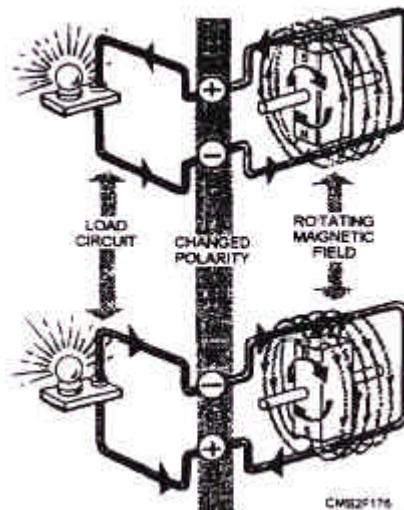

Figure 2-23.- Simple alternator illustrating reversing magnetic field and resulting current flow.
The fingers on one of the claw-shaped pole pieces produce south (S) poles and the other produces north (N) poles. As the rotor rotates inside the alternator, alternating N-S-N-S polarity and ac current is produced (fig. 2-23). An external source of electricity is required to excite the magnetic field of the alternator.